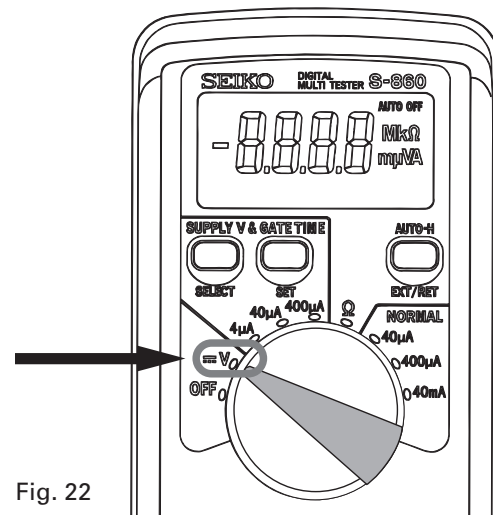

Fig. 22
- \* When measuring the voltage using the SEIKO digital multi-tester (S-860), use the range of mV (Fig. 22).